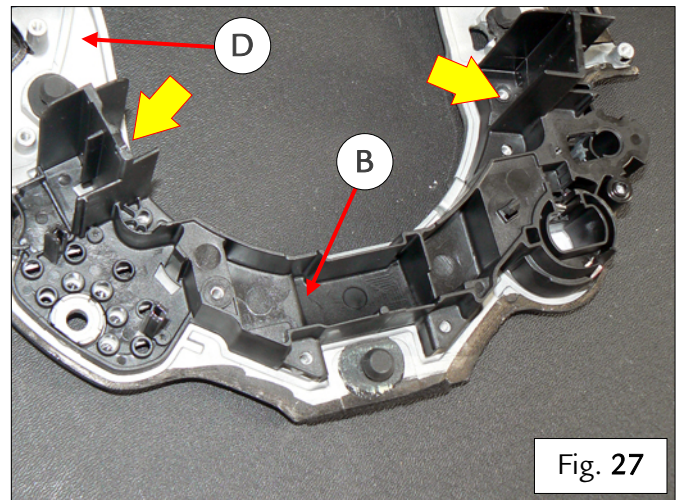

Fig. 27
- Fit the main base (B) on the face plate (D) – Fig. 27.
- Tighten the two screws indicated to a torque of 0.27 Nm – Fig. 27.